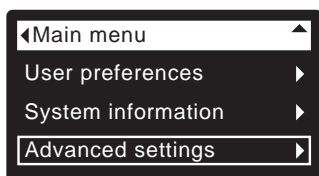

FIG. 73*
1. From any of the rolling status screens, press the SELECT (O) button to display the **Main menu**.
2. Press the DOWN (▼) button to scroll through the menu options until **Advanced settings** is highlighted (See Figure 73*).